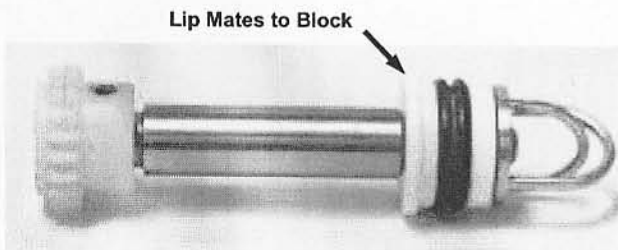

Fig. 33
j. With a twisting motion insert the spinner and drive assembly into the bottom hole on the back of the mixing block until the lip on the spinner shaft bearing seats securely against the back of the mixing block - Fig. 33.